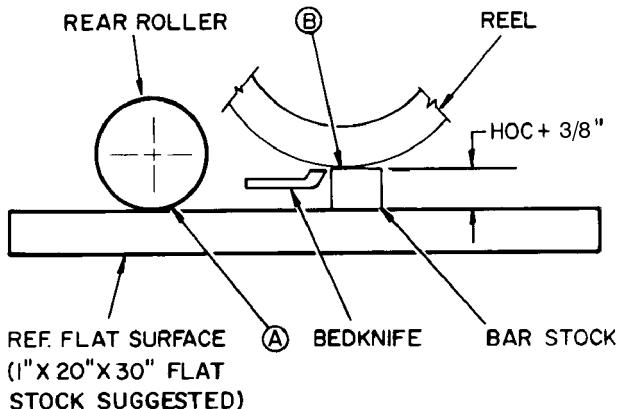

Figure 16
2. Insert a piece of bar stock 25-28 in. (70 cm) long (Fig. 16), and approximately 3/8 in. (9.5 mm) thicker than the desired height-of-cut, under the reel and up against the bedknife cutting edge (Fig. 16). The reel (not bedknife) must contact the bar stock along its full length.
5. Insert piece of bar stock (Fig. 16) 25-28 in. (70 cm) long with thickness equal to desired height-of-cut, under entire length of the reel, next to bedknife.